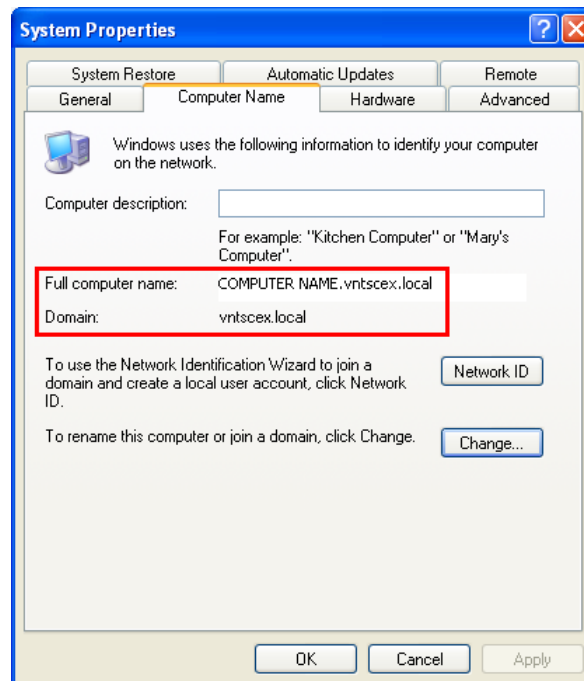

Figure D-1 System Properties in Windows XP
- b. The *Systems Properties* dialog box will open. Select the *Computer Name* tab (Figure D-1).
- c. The *Full computer name* consists of computer name and domain. The computer name without the *Domain* at the end is the desired SQL Server instance name (e.g. in Figure D-1 only COMPUTER NAME is needed, not *.vntscex.local*).